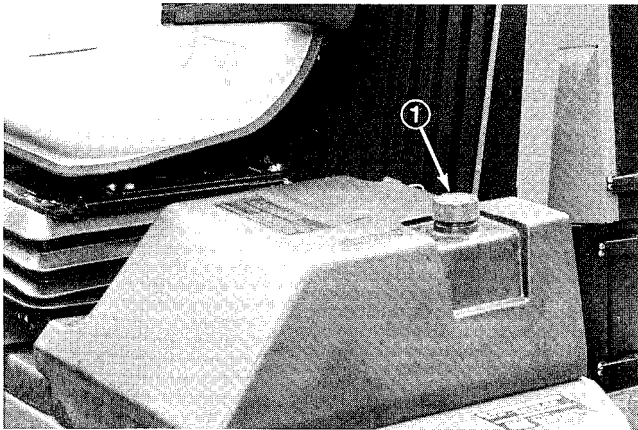

Figure 6
1. Remove fuel tank cap (Fig. 6).